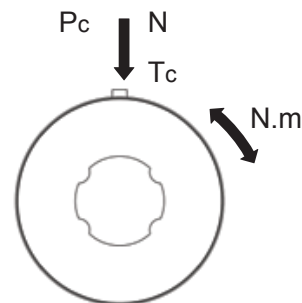

Figure 2. Service Life Factors
The factors influencing the service life for precision ball splines can be attributed to three main factors: the torque, radial load and moment (Fig 2). The influence of each can be calculated through equations (9) to (13).